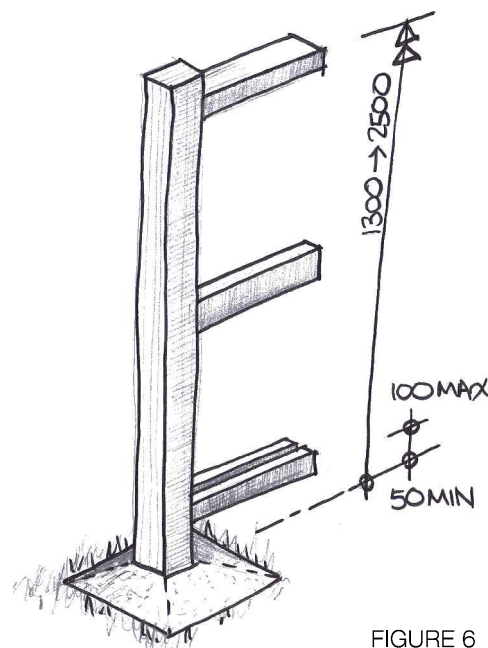

FIGURE 6
STEP 6 FIXING RAILS (Figure 6 & 7)